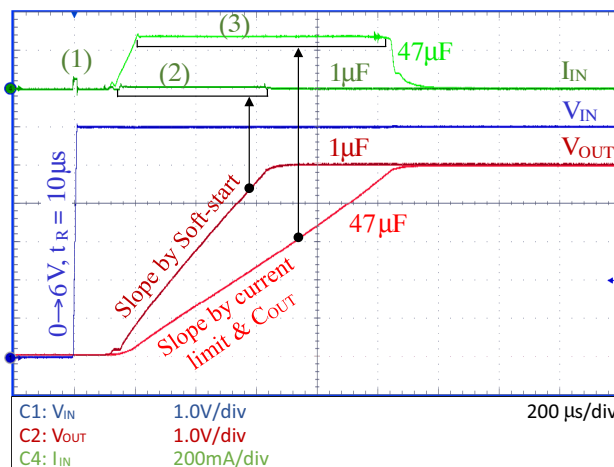

Figure 75.
Now back to LDO application. Here we can see two different inrush current spikes. The first one is caused by the LDO's input capacitor (C_{IN}) charging from zero to the input voltage level. It happens when the previous power block (for example DC/DC) starts providing the input voltage to the LDO circuit. The maximum level of this inrush current is given by Equation 16. It doesn't matter if LDO is enabled or disabled as this inrush current spike is related only to C_{IN} and it can't be suppressed by the LDO, it is matter of previous power block. This inrush current spike is shown at Figure 75, point (1).